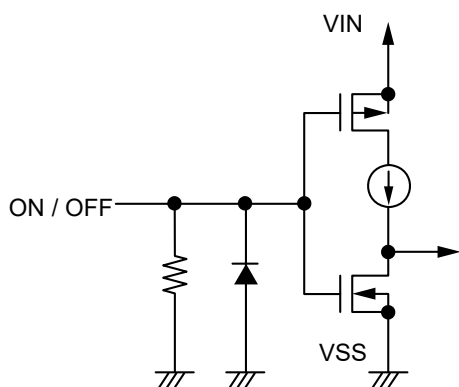

Figure 27 S-1335 Series A / C / E / G / J / L type
The ON / OFF pin is configured as shown in **Figure 27** and **Figure 28**.
*1. Note that the IC's current consumption increases as much as current flows into the pull-down resistor of 2.2 MΩ typ. when the ON / OFF pin is connected to the VIN pin and the S-1335 Series A / C / E / G / J / L type is operating (refer to **Figure 27**).